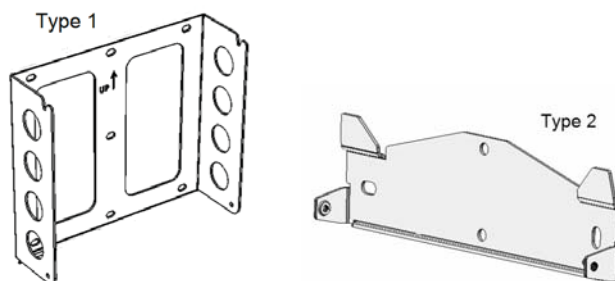

Figure 14: Mounting bracket types
- For Type 2 – Ensure that the flat side of the bracket is at the bottom, as in *Figure 14*.